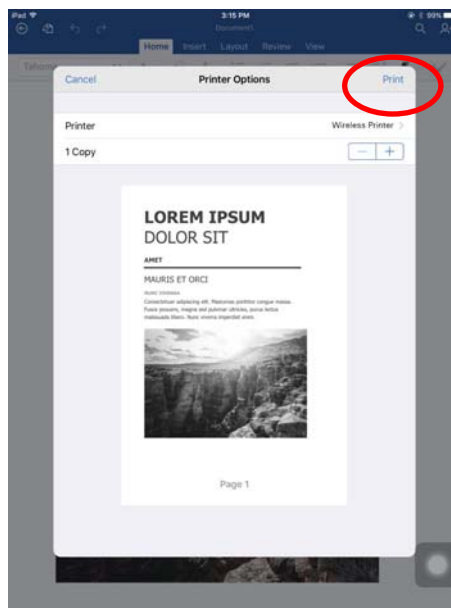

Figure 43
2.7 Return to “Printer Options” interface and click “Print”, the system sends print data to the printer, as shown in Figure 43.